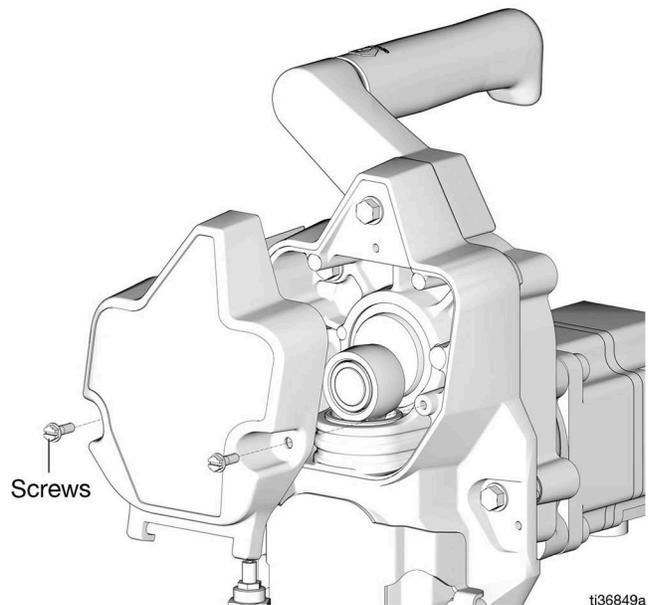

FIG. 14
- Replace the cover on the front of the pump (7), and secure with the two screws (FIG. 14).